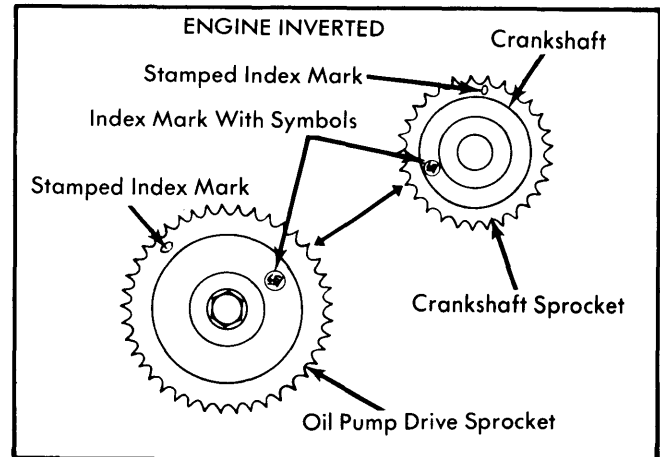

Fig. 15 Oil Pump Drive Sprocket and Crankshaft Sprocket Alignment
2) Position crankshaft timing sprocket and oil pump drive sprocket as shown in Fig. 15. Fit timing chain over sprockets. Make sure plated links in timing chain align with stamped recess in both sprockets.